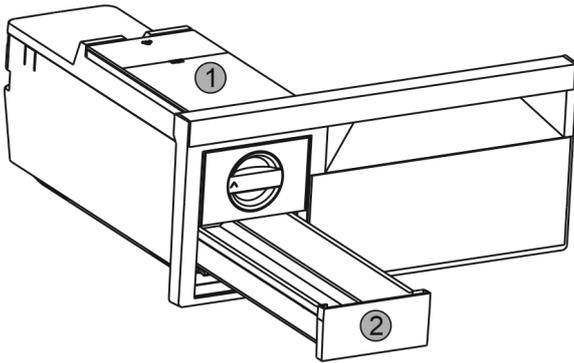

Fig. 39
- ▶ Take out the water tank Fig. 39 (1) and ice cube drawer Fig. 39 (2).